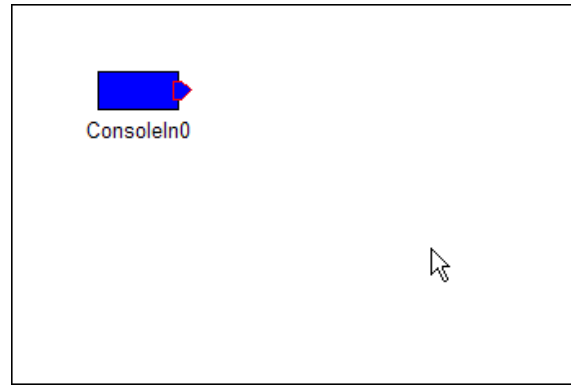

Fig. 4.8: Deleting a component
**Deleting components** A right click above an RT-Component will open a context menu. By selecting 'Delete Item' in the menu or by pressing the "Delete Key", the RT-Component under the cursor will be deleted from the System Composer Window (Figure 4.8). To delete several components, they first must be selected. Then, a right click in an area different from the selected components will open the context menu. By selecting 'Delete to Selected Item' or by pressing the "Delete Key", all the selected components will be deleted from the System Composer window. This operation only deletes RT-Components from the System Composer Window. The components themselves are not actually deleted.